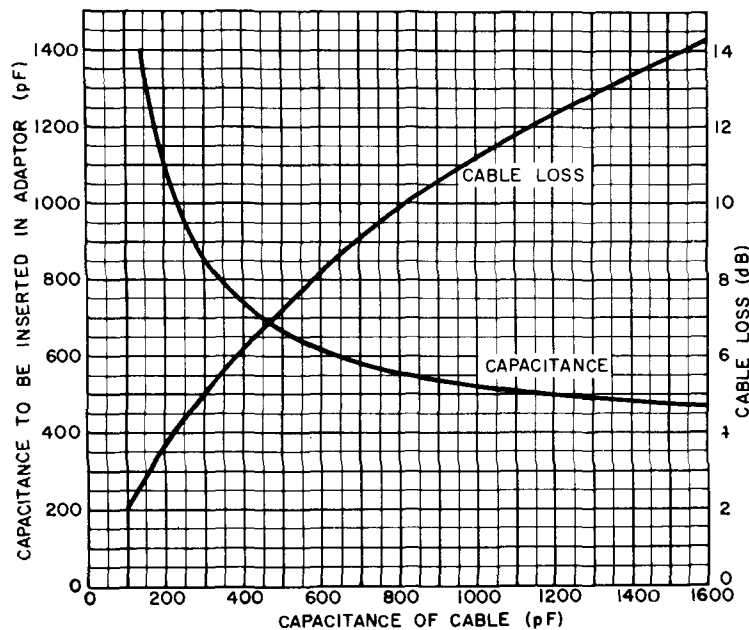
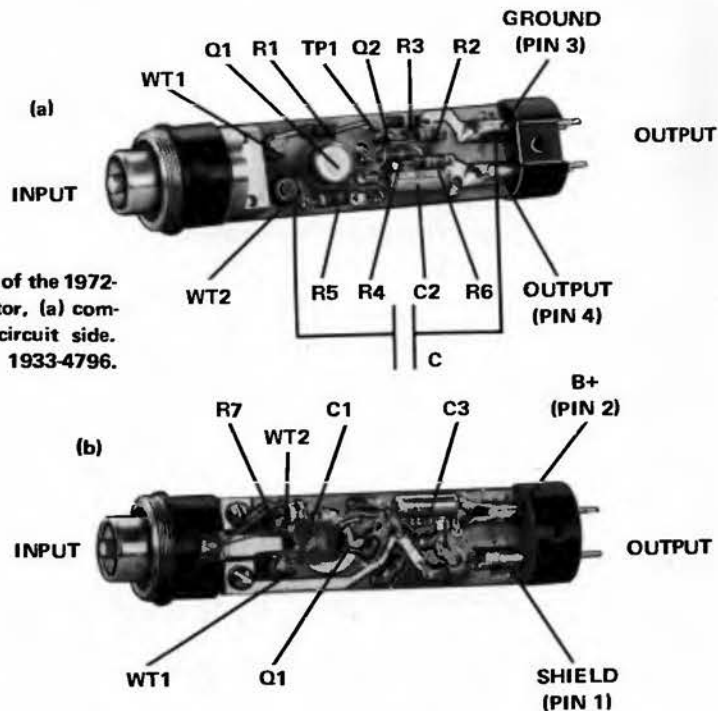

Figure 6-2. Compensation required for the capacitance of various extension cables and the corresponding cable loss.
Figure 6-3. Interior views of the 1972-9600 Preamplifier/Adaptor, (a) component side, and (b) circuit side. Complete board is P/N 1933-4796.
If the Preamplifier/Adaptor is to be used as an adaptor (i.e., the prongs not used) with a sound-level meter that uses the microphone-plus-cable capacitance as part of the weighting network (e.g., the GR 1565), the use of an extension cable will change the weighting characteristics. To compensate for this, a capacitor, C, Figure 6-3, must be added from high to ground (WT2 to pin 3) of the Preamplifier. Also, cable losses will cause the meter to read low by an amount that varies with the cable length. Figure 6-2 shows the value of the compensating capacitor for cable capacitances between 150 and 1500 pF and the loss to be added to the reading of the sound-level meter. This is often a convenient means of extending the upper sound-pressure measuring range of the sound-level meter.
b. Carefully unsolder and remove the coupling capacitors, C1 and C2 (see Figure 6-3).
d. Solder an insulated wire from the input terminal (WT1, Figure 6-3) to the output terminal (pin 4).